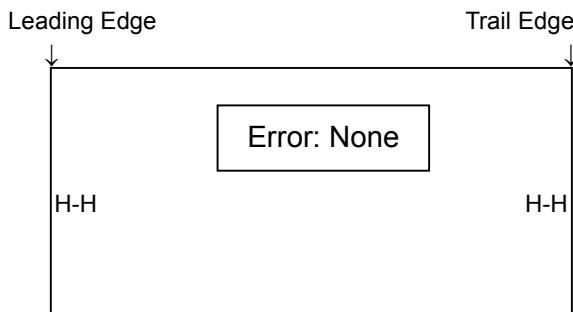

Figure 5-222
4) Check the printed position. The situation shown in Figure 5-222 does not require correction.